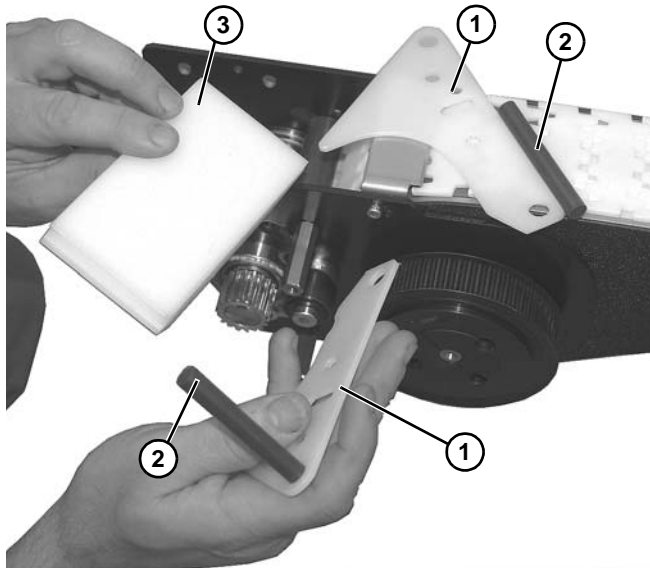

Figure 149
11. Disassemble side guide plates (Figure 149, item 1), wear rods (Figure 149, item 2), and wear bar (Figure 149, item 3). Replace worn components.